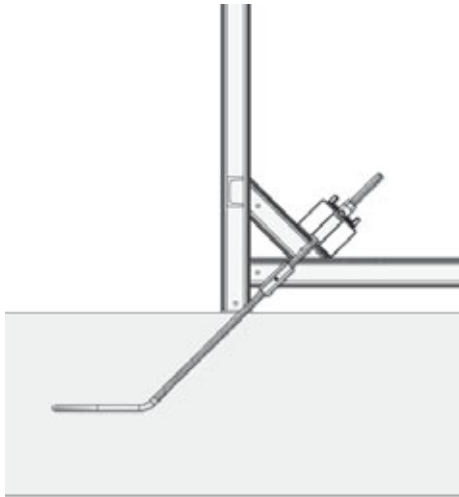

Fig. 9.1
- Anchor loop 15 (20) in combination with the cross stiffener 44 (Fig. 9.1 and 9.2).